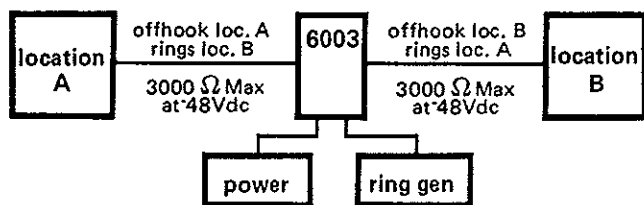

figure 2. 6003 interconnects two lines or trunks
2.01 The 6003 and 6004 2Wire Automatic Ringdown modules may be applied to 2wire, metallic facilities to provide bi-directional automatic ringdown service. The 6003 is employed on metallic facilities connecting two stations or two trunks (figure 2).